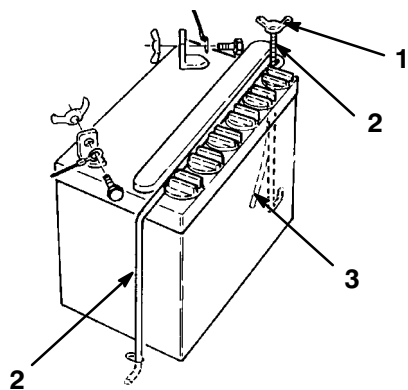

Figure 20
2. Remove wing nut securing battery hold downs to rider chassis (Fig.20).
3. Disconnect the negative (black) ground cable from the battery post (Fig. 20).
4. Lift the rubber cover up on the positive (red) cable. Disconnect the positive (red) cable from the battery post (Fig. 20).
5. Remove wing nut securing battery hold downs to rider chassis (Fig. 20).